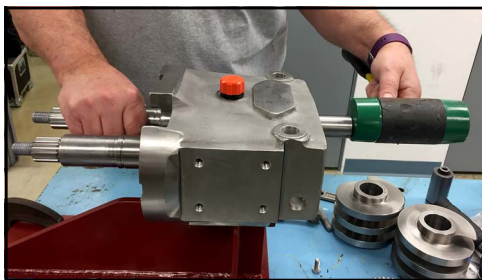

Figure 158 - Tap drive shaft out of gear case
3. Grasp the shaft with one hand and tap it out of the gear case with a rubber mallet as shown in Figure 158.